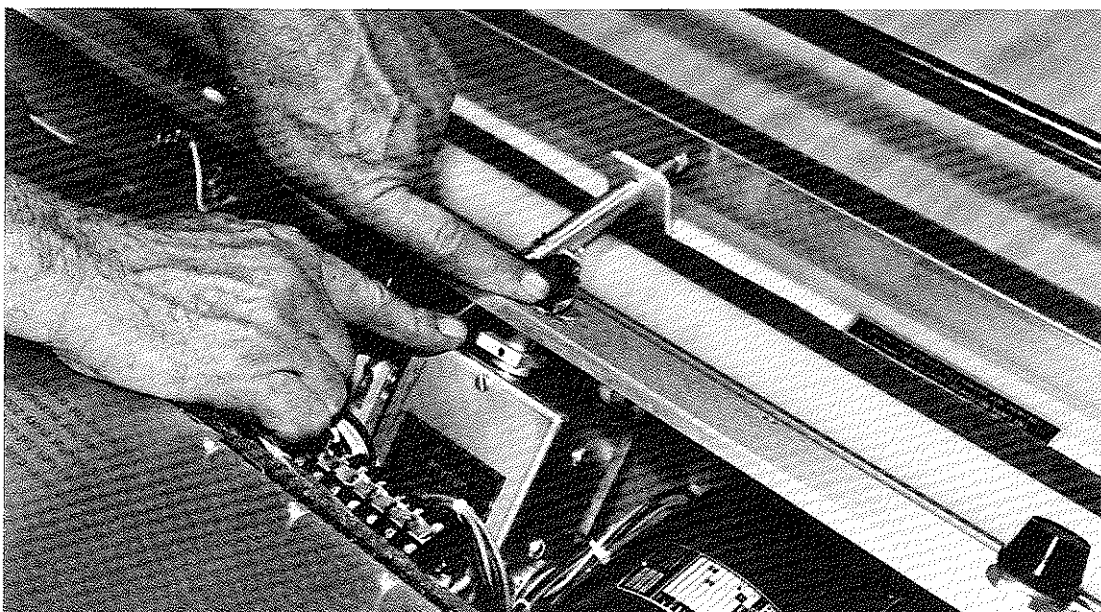

FIGURE 32
- 6) DRESSING DISTANCE ADJUSTMENT - To apply dressing to a distance different than 15 feet from the foul line: SEE FIGURE 32.